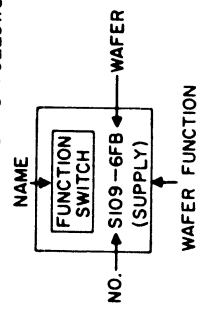

Figure 4-8. Simplified Detector Diode Test Circuit
(1) Proper filament voltage from transformer T101 secondary No. 7 is applied to the tube under test through FILAMENT VOLTAGE switch S108 and FILAMENT selectors S107 and S106. The cathode line to the tube is completed from the center tap of resistor R110 through wafers of FUNCTION SWITCH S109, normally-closed contacts of pushbutton P6, and CATHODE selector S102.
(2) When STD pushbutton P7 is pressed, approximately 35 vac from transformer T101 secondary No. 7 is applied across the tube under test, and the metering circuit is completed. The plate circuit is closed through load resistor R106, SHUNT control R127, wafers of FUNCTION SWITCH S109, normally-closed contacts of pushbutton P3, and plate circuit oscillation neutralizing resistor R103. The meter circuit, including series compensating resistors R138 and R140 and normally-closed contacts of pushbuttons P1 and P8, is connected across SHUNT control R127 through contacts of the FUNCTION SWITCH. SHUNT control R127 and meter shunt resistor R112 control the sensitivity of the meter circuit for this test.
(3) Plate jack J101, the red jack marked P on the panel, provides connection for tubes requiring external plate leads. Test meters may also be connected at this jack.
e. DETECTOR DIODE TEST CIRCUIT ANALYSIS (See figure 4-8.) — This circuit is basically quite similar to that of figure 4-7. Major differences are as follows: when DIODE pushbutton P2 is pressed, approximately 20 vac from transformer T101 secondary No. 2 is applied to the tube under test through limiting resistor R117 and the other components noted in sub-paragraph d (2) above. Meter shunt resistor R112 is not used in this circuit.